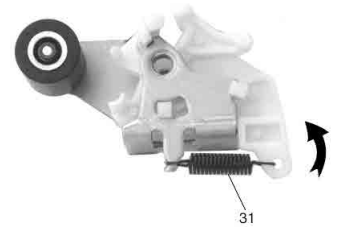

Fig. 17
- Unhook the spring (Pos. 31, Fig. 17), turn the plastic lever (Pos. 18, Fig. 16) in the direction of the arrow and remove it.